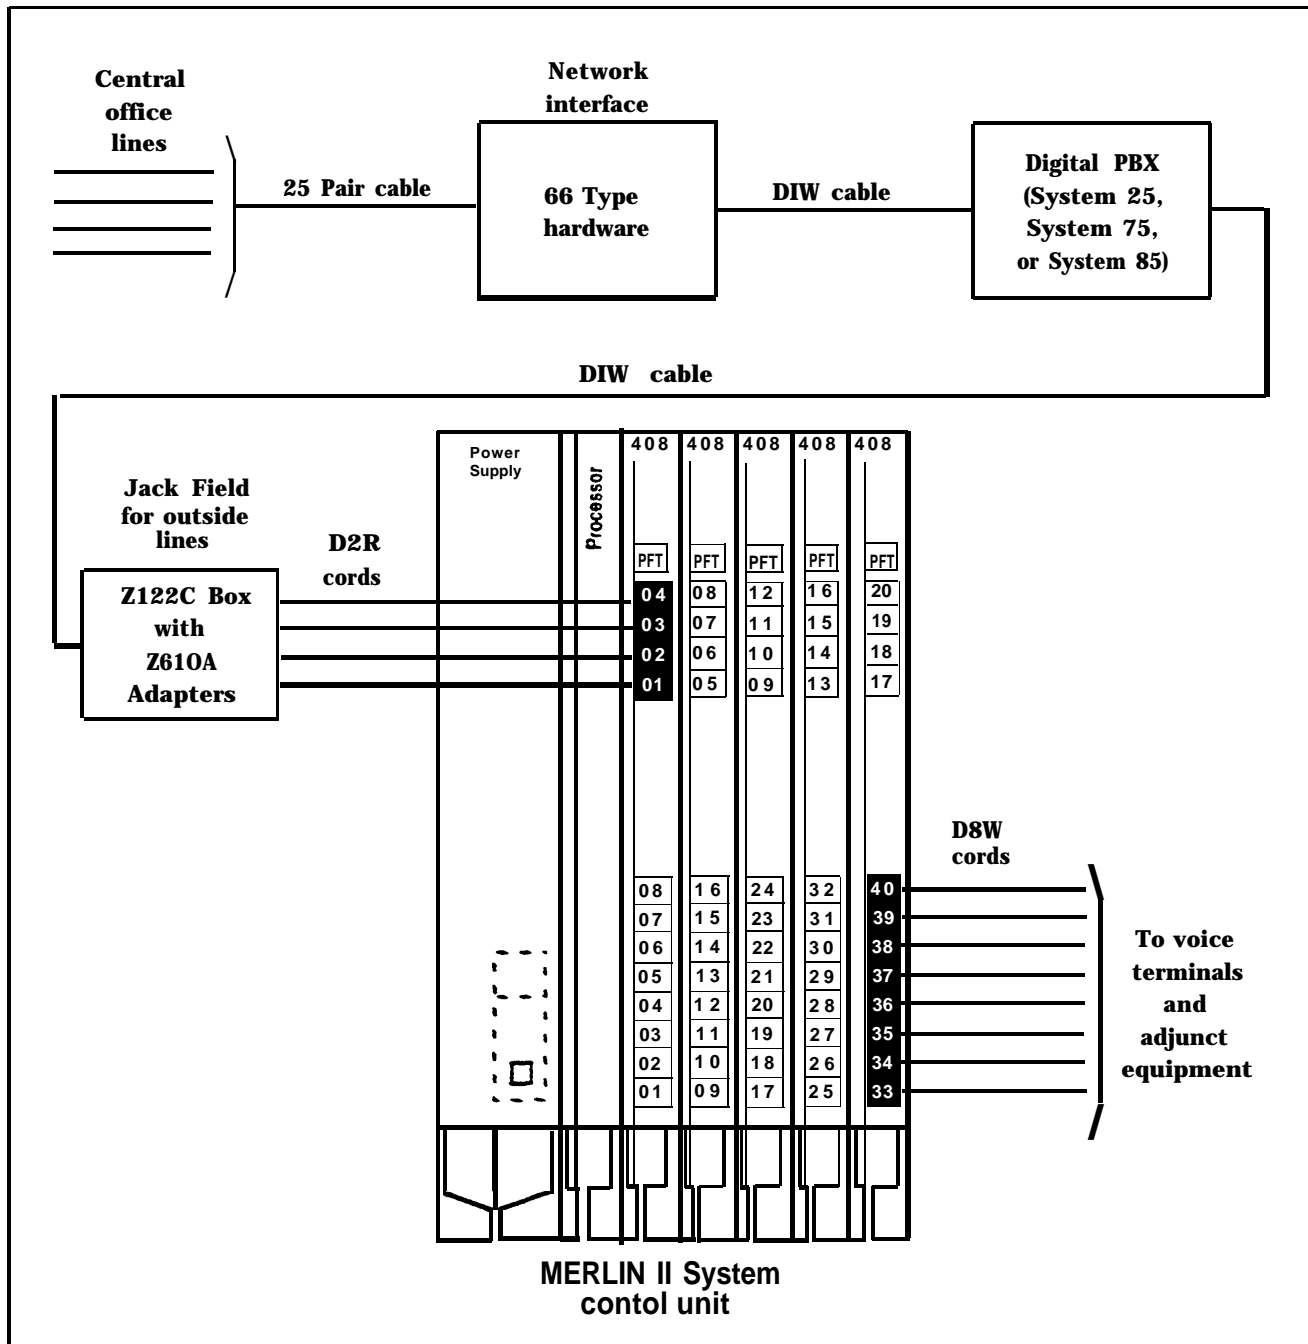

FIGURE 1-2 A MERLIN II system behind-switch operation.
- In a behind-switch system, the MERLIN II system operates behind a larger system such as a System 25, 75, or 85 PBX. In this configuration, most features of both systems are available to the MERLIN II system user. Refer to Figure 1-2 for an example of a MERLIN II system operating behind a digital PBX.